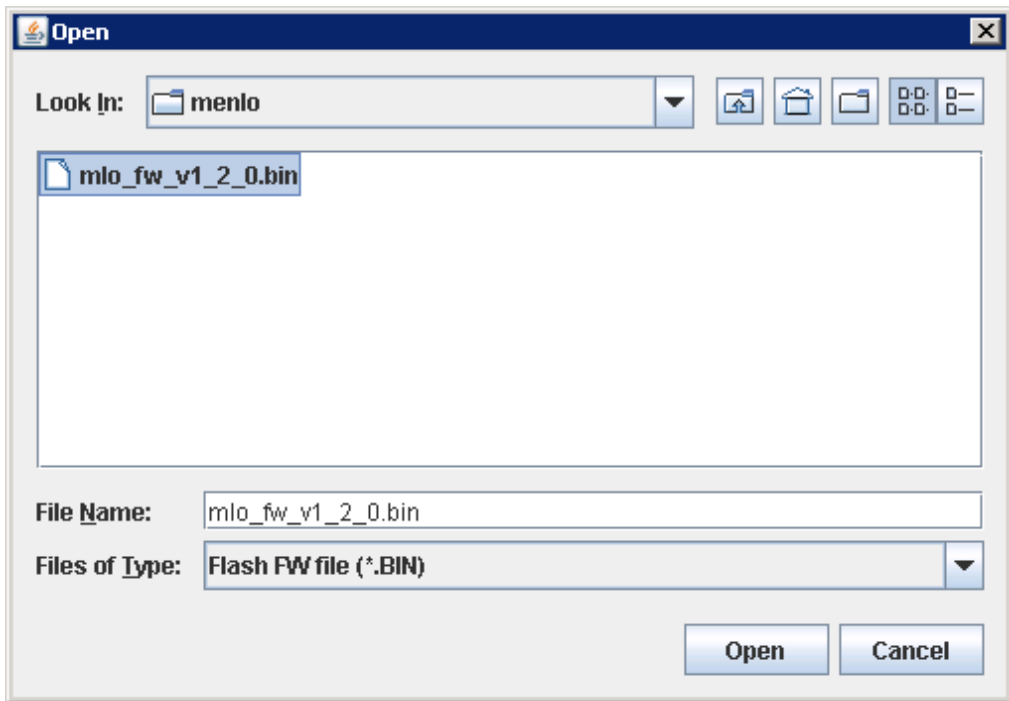

Figure 77 Open dialog box
- A new window appears, as shown in Figure 77 on page 99.